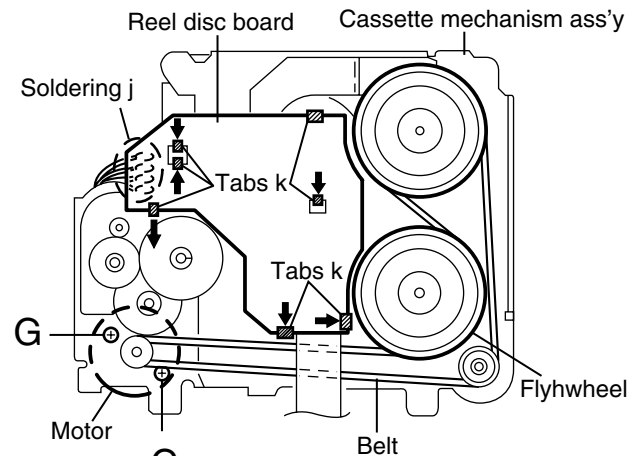

Fig.10
**■ Removing the reel disc board (See Fig.10)**
**■ Removing the motor and the sub motor (See Fig.10 and 11)**